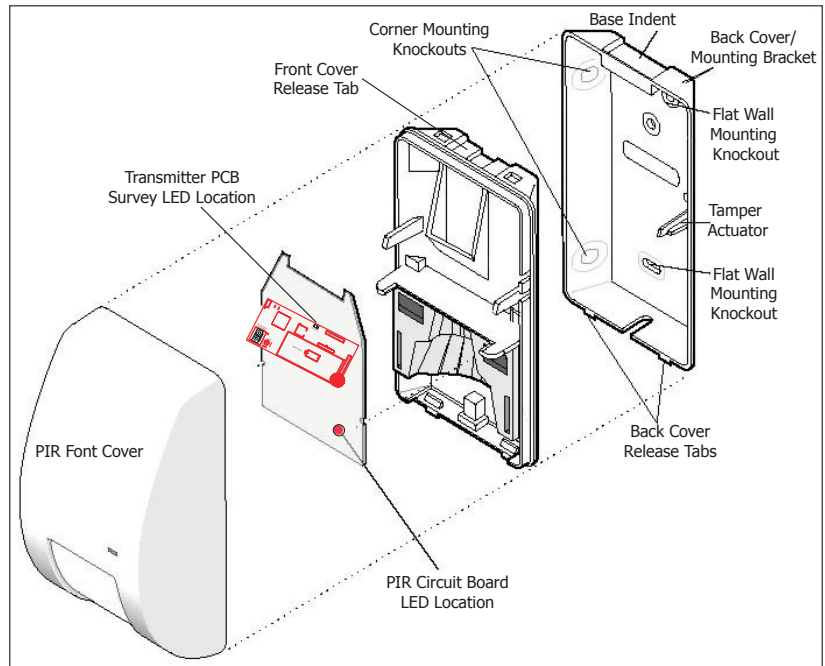

Figure 1: 1125 PIR Exploded View
The PIR transmitter provides a survey capability to allow one person to confirm transmitter communication with the receiver while the cover is removed. Refer to Figure 1 and the PIR Walk Test steps to remove the PIR front cover. The PIR transmitter PCB Red Survey LED turns on when the processor wakes up to send a message. Then after a series of communication steps are completed (successful or not), the LED turns off when the processor goes back to sleep. Waving your hand in front of the PIR is a convenient way to send data to the receiver to confirm operation. The PIR circuit board LED lights to indicate motion and the Survey LED briefly lights to confirm operation. See Figure 1 for LED locations.
1. Separate the PIR unit from the mounting bracket. Refer to Figure 1 for details.